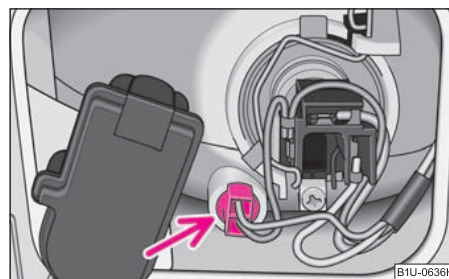

Fig. 181 Change the light bulb for the parking light
- Pull the lamp holder with light bulb for the parking light out of the headlight ⇒ fig. 181.